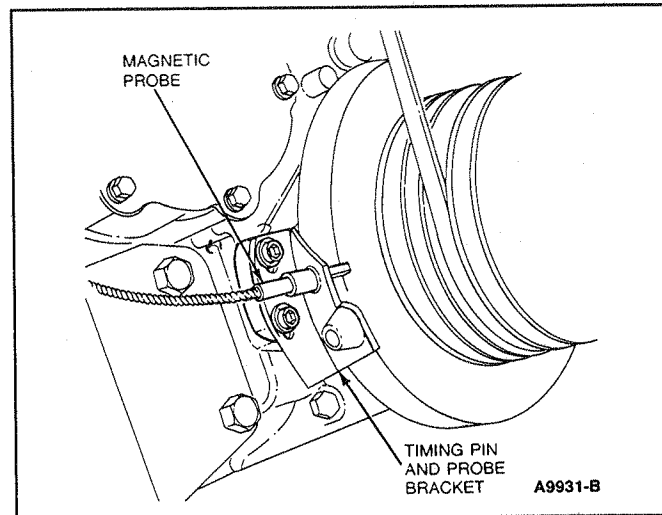

Figure 14 Inserting Magnetic Pickup Into Timing Bracket
1. With engine stopped, install Rotunda Dynamic Timing Meter 078-00200 or equivalent. Place the magnetic pickup into the timing bracket pointer hole (Figure 14). Attach the connector from the pickup to the meter lead.